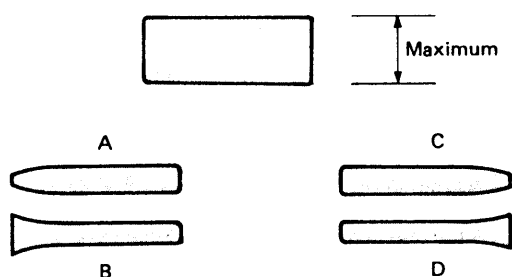
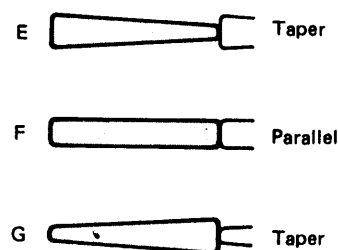

Fig. 2-35 Minimum FM output (incorrect examples)
Fig. 2-36 Minimum FM output (correct examples)
- If the waveform becomes as shown by A or B of Fig. 2-35, carefully adjust the supply guide roller height so that the waveform becomes as shown by E, F or G of Fig. 2-36.
- If the FM waveform appears as shown by C or D in Fig. 2-35, carefully adjust the take-up guide roller height to obtain a waveform such as shown by E, F or G of Fig. 2-36.
Perform fine adjustment of supply and take-up guide rollers so that waveform variation becomes as shown by E, F or G of Fig. 2-36.